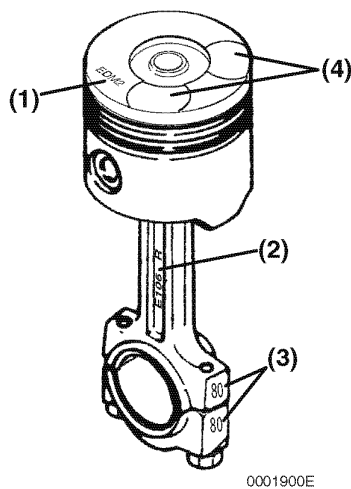

Figure 8-96
NOTICE: The piston and connecting rod must be installed with the correct orientation. When installed correctly, the identification mark (Figure 8-96, (1)) stamped into the top of the piston will face the open side of the crankcase. The connecting rod match marks, (Figure 8-96, (3)) and the piston valve pockets will face the injection pump side of the engine.
5. Carefully install the piston and rod assembly. The identification marks stamped into the top of the piston (**Figure 8-96, (1)**) and connecting rod beam (**Figure 8-96, (2)**) will be facing the open side of the crankcase. The connecting rod match marks (**Figure 8-96, (3)**) and the piston valve pockets (**Figure 8-96, (4)**) will face the injection pump side of the engine.